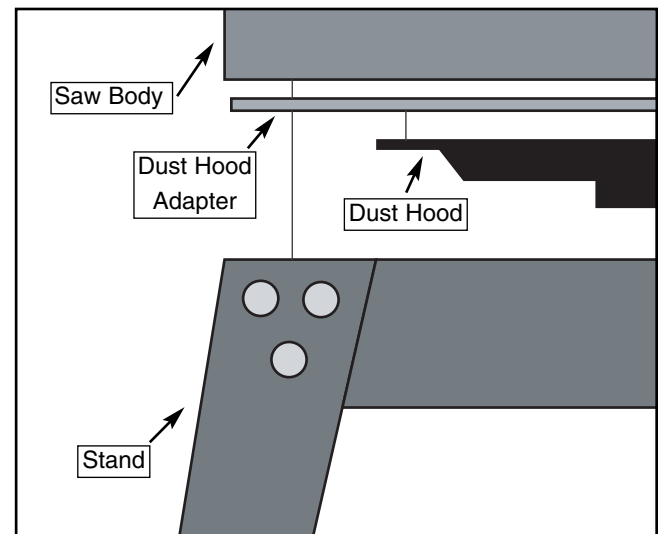

Figure 11. Attaching the stand to the saw base.
- Align the holes at the four corners. Place the assembled stand upside down on the table saw body, and line up its mounting holes. Make certain the side of the stand with the "Z Series" label, if applicable, is on the front side of the machine (the side with the Grizzly label and angle scale). Secure with M8-1.25 x 19 hex bolts, 8MM flat washers and M8-1.25 hex nuts, with the dust port sandwiched between as shown in **Figure 11**.